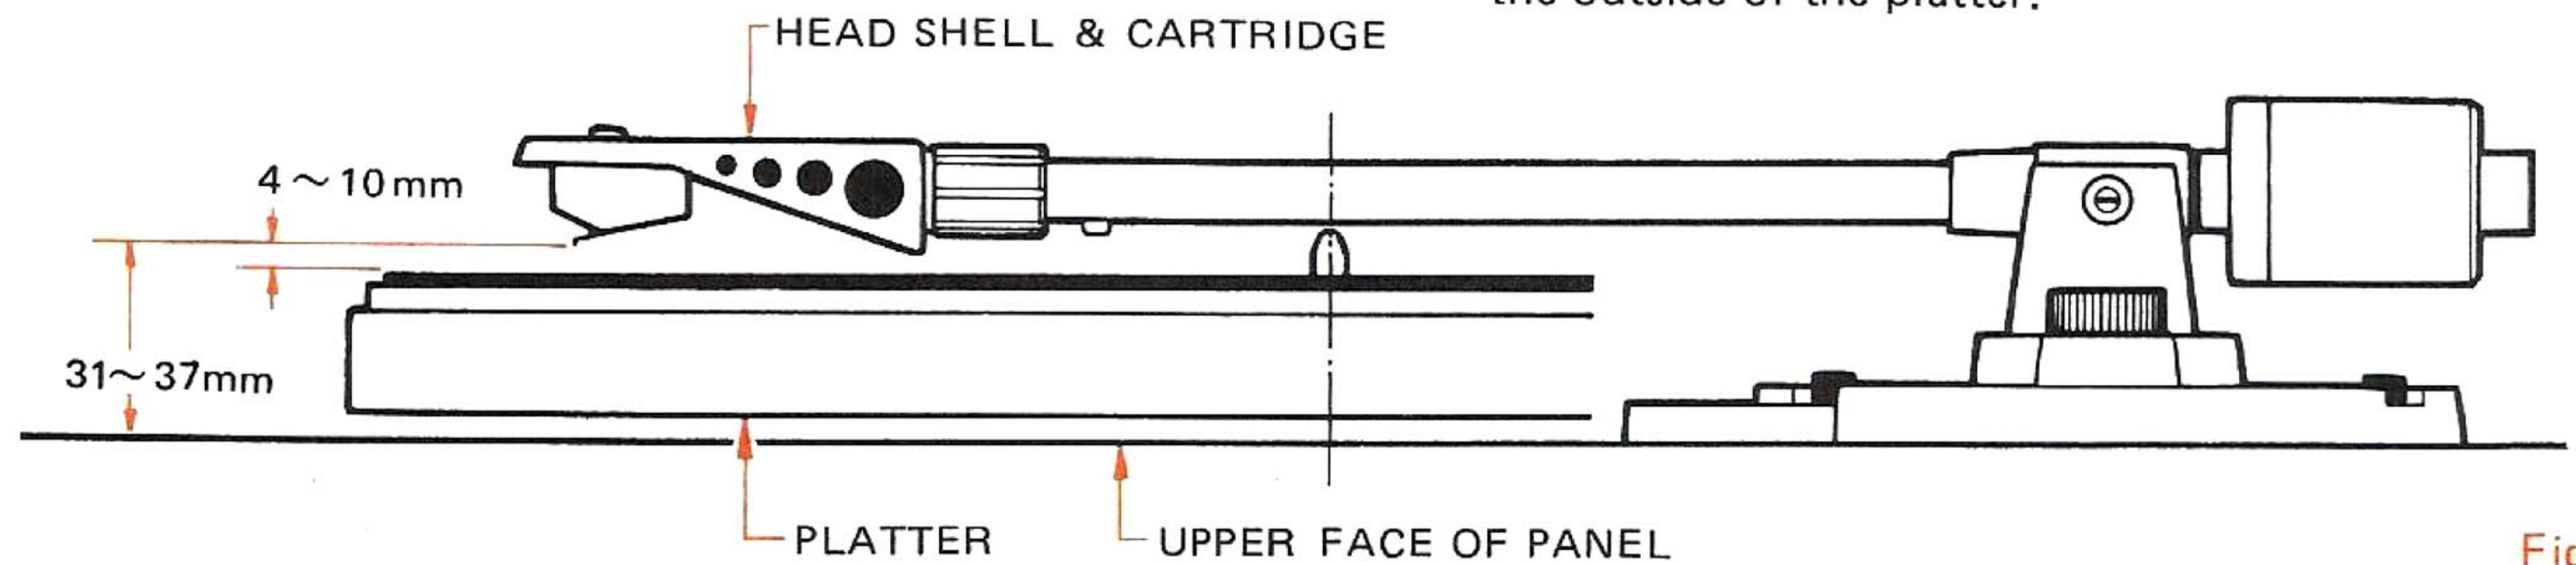

Fig. 1
Set the cueing lever to the UP (▼) position, then turn screw (A) so that the stylus tip of the cartridge is 4 to 10 mm above the surface of the record. (Refer to Figs. 1 and 2.)